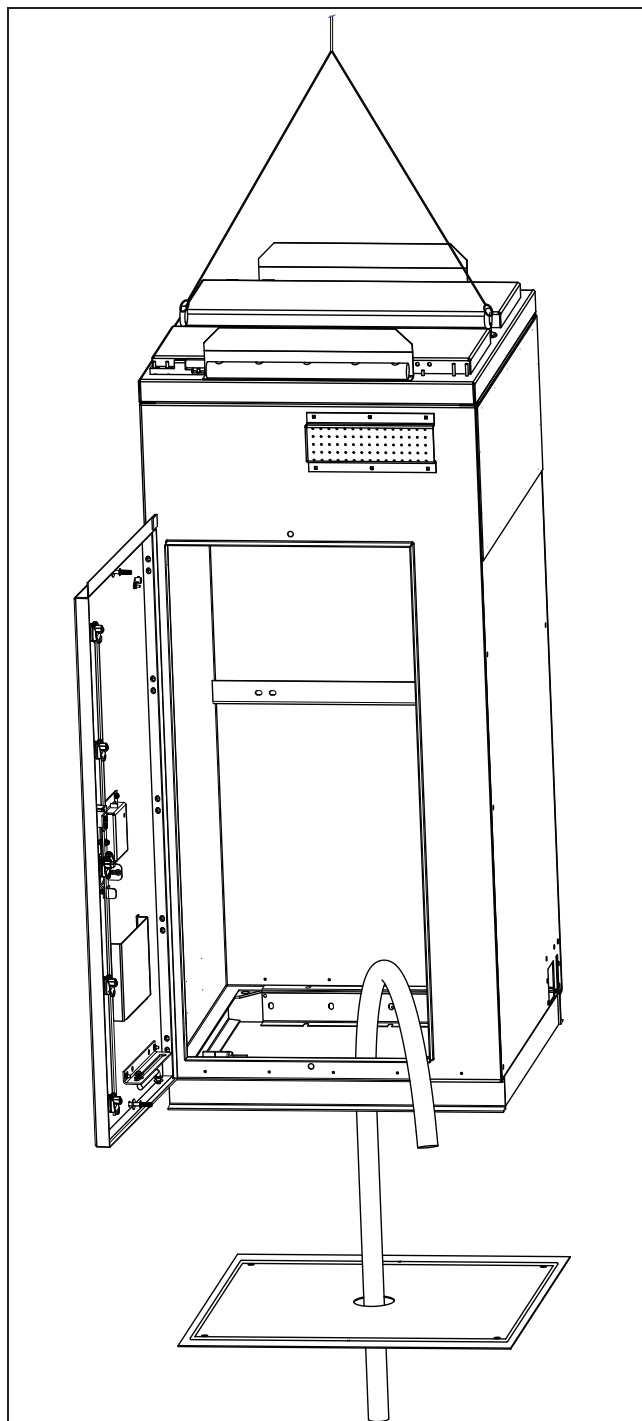

Figure 6. Aligning the bay for placement on the base plate.
- Align the bay or bay assembly so the channel base is square with, and centered upon, the base plate. See Figure 6.